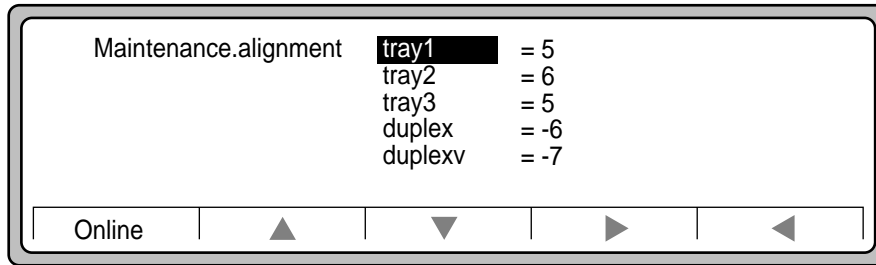

Figure 6-16 Maintenance.alignment Tray1 setting
6. Select tray1 and press **▶**. This is the Maintenance.alignment screen, shown in Figure 6-16.